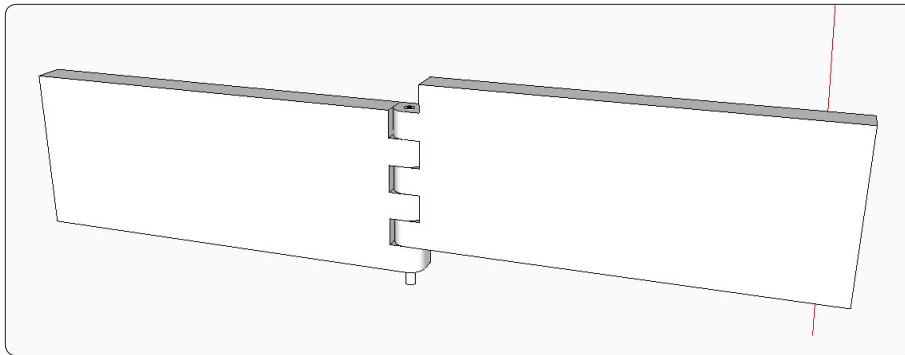

Figure 49. Copy the fixed half, then flip it and offset it to create the movable hinge half.
Step 4 Use the fixed hinge half to make the movable half. Copy the fixed half, move it to the right, execute a Flip Along command, and move the copy so that it's offset from the fixed half by the width of one knuckle (Figure 49). Make the copy a unique component.